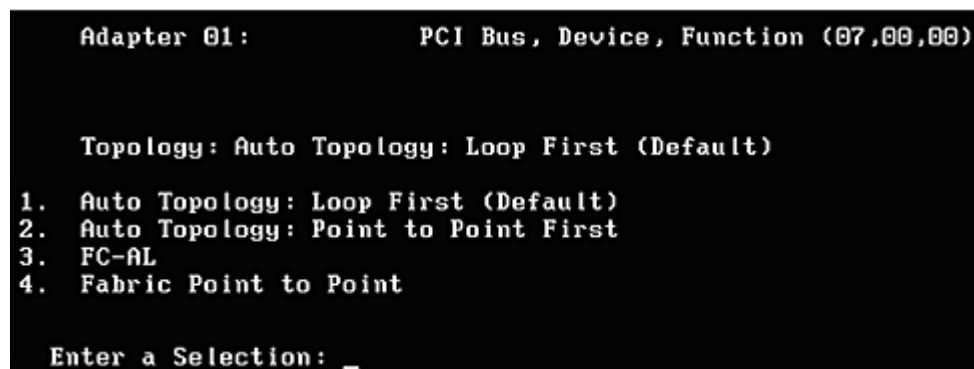

Figure 12: Topology menu
2. Select **<4>**, Topology Selection (+Advanced Option+). Figure 12 is displayed.